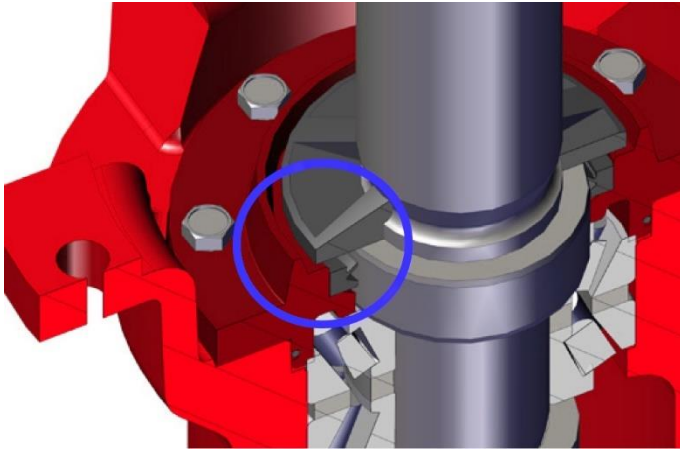

Figure 7. Shaft Flinger, Wet End Bearing and End Cover.
2. Screw the SHAFT LIFTING NUT on the wet end of the shaft. Carefully lower the shaft into the bearing housing. Tap the wet end bearing until it rests firmly against the bearing housing shoulder (See Figure 7). The shaft should slide into position - if the fit is tight or hangs, check that the shaft is not fouling.
Slide the FLINGER (036) along the shaft until the large diameter on the flinger fits into the recess in the lower end cover, and the fingers on the internal diameter of the flinger seat on the shaft recess as shown in Figure 7.